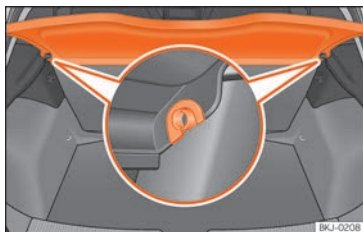

Fig. 164 In the boot: removing and installing the shelf.
- Remove the rear shelf from the side supports » **Fig. 164** by pulling it upwards and then take it out.
- Insert the cover horizontally so that the “recess” fits onto the axis of the supports » **Fig. 164** and press down until it engages.